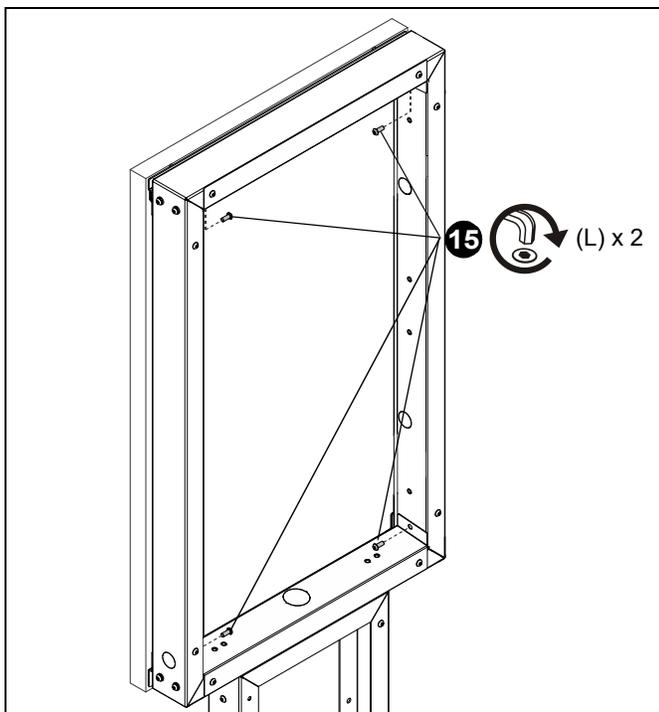

Figure 21
15. Finish installing the horizontal covers (H) using four M8 x 20mm security screws (L). (See Figure 21)